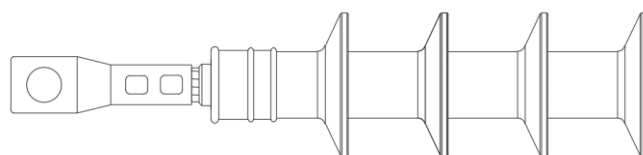

Fig.6
- Install the crimp terminal with specialized crimping pliers, and install the shear bolt terminal as per the installation manual of the terminal. (Fig.6)